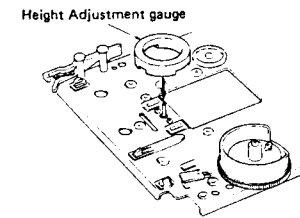

Fig. 7
- a. Install the height adjustment gauge as shown in Fig. 7.